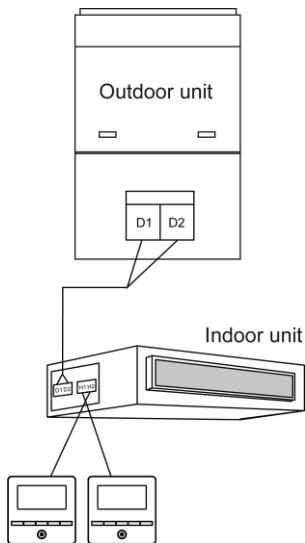

Fig. 3.5 Two wired controllers
- (1) When one wired controller controls multiple indoor units simultaneously, the wired controller can connect to any one indoor unit, but the connected indoor unit must be the same series indoor unit. The total quantity of indoor unit controlled by wired controller can't exceed 16 sets, and the connected indoor unit must be within the same indoor unit's network. Wire controller must set quantity of group control indoor units. Please refer to 3.2.3 Parameters Setting.
- (2) When two wired controllers control one indoor unit, the addresses of those two wired controllers should be different. Please refer to 3.2.3 parameter setting.
- (3) When two wired controllers control multiple indoor units, wired controller can connected to any one indoor unit, while the connected indoor unit should be the same series indoor unit. The addresses of those two wired controllers should be different. Please refer to 3.2.3 parameter setting. The total quantity of indoor unit controlled by wired controller can't be more than 16 sets and all connected indoor units must be within the same indoor unit network. Wire controller must set quantity of group control indoor units. Please refer to 3.2.3 Parameters Setting.
- (4) When one (or two) wired controller(s) control(s) multiple indoor units at the same time, the controlled indoor unit's setting should be the same.
- (5) Wiring of wired controller and indoor unit network must be according to one of the four wiring method as shown in fig 3.4-3.7. As for the connection method shown in fig 3.5 and 3.7, there should be only one master wired